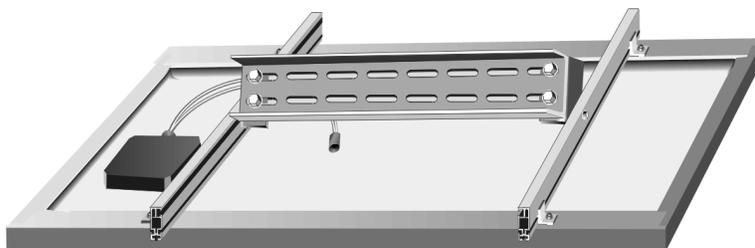

Figure 11 Attaching the Channel to the Brackets
1. Position the channel over the brackets as shown in Figure 11.